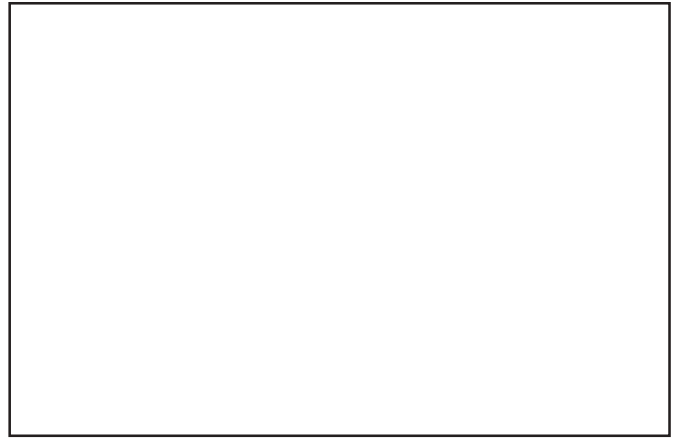

Figure 1. Model FHEX Mounting Dimensions.
2. Mounting Arrangements (see figure 1).
This device can be mounted on any relatively flat surface. Conduit connection can be made to 3/4" threaded opening in splicing conduit attached to this device (see figure 1).
- b. Using the horn as a template, scribe drill position marks on the mounting surface. See figure 1 for mounting hole locations and dimensions.